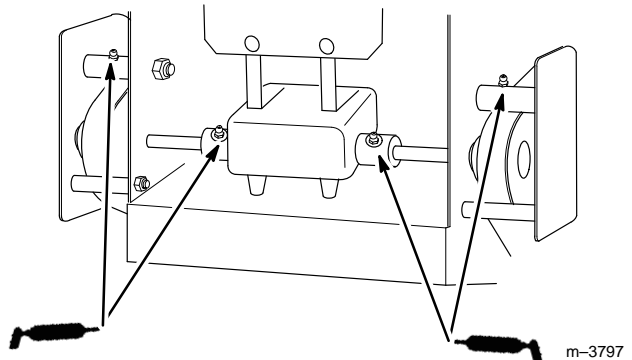

Figure 37
2. Lubricate the transmission couplers and idler arm pivots (Fig. 37).